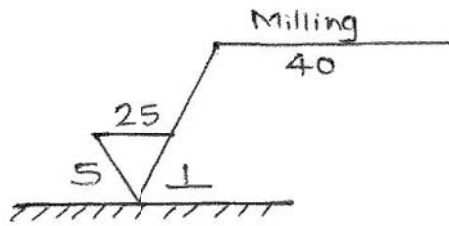

Fig. 1
- c) State the meaning of the symbol shown in Fig. 1..